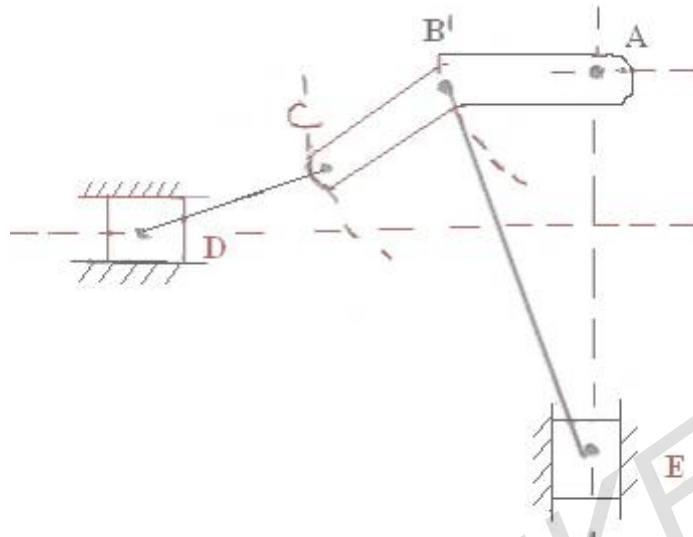

Figure 5
5. Figure 5 shows the mechanism of a pneumatic riveter. The arms AB and BC are each 175 mm long, link BE is 500 mm and link DC is 325 mm long. The centre line of the piston is horizontal and 200 mm below A and AC is vertical, BE makes an angle of 12° with the vertical. Find the velocity ratio between D and the ram E when AC is vertical, and the efficiency of the machine if a load of 2.5 KN on the